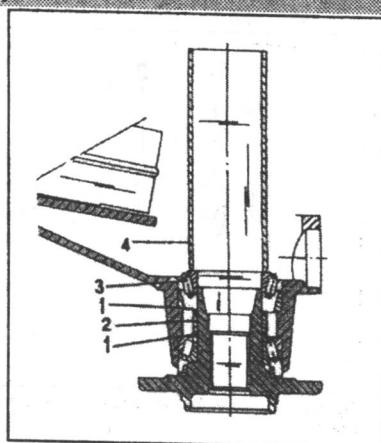

Fig. 5.13. — Final assembly of a steering knuckle.
- Fit the well greased inner bearing race (2) into the steering knuckle, using a suitable piece of tube and fit a new oil seal (1). A sectional view of the final assembly stage is shown in Fig. 5.13.